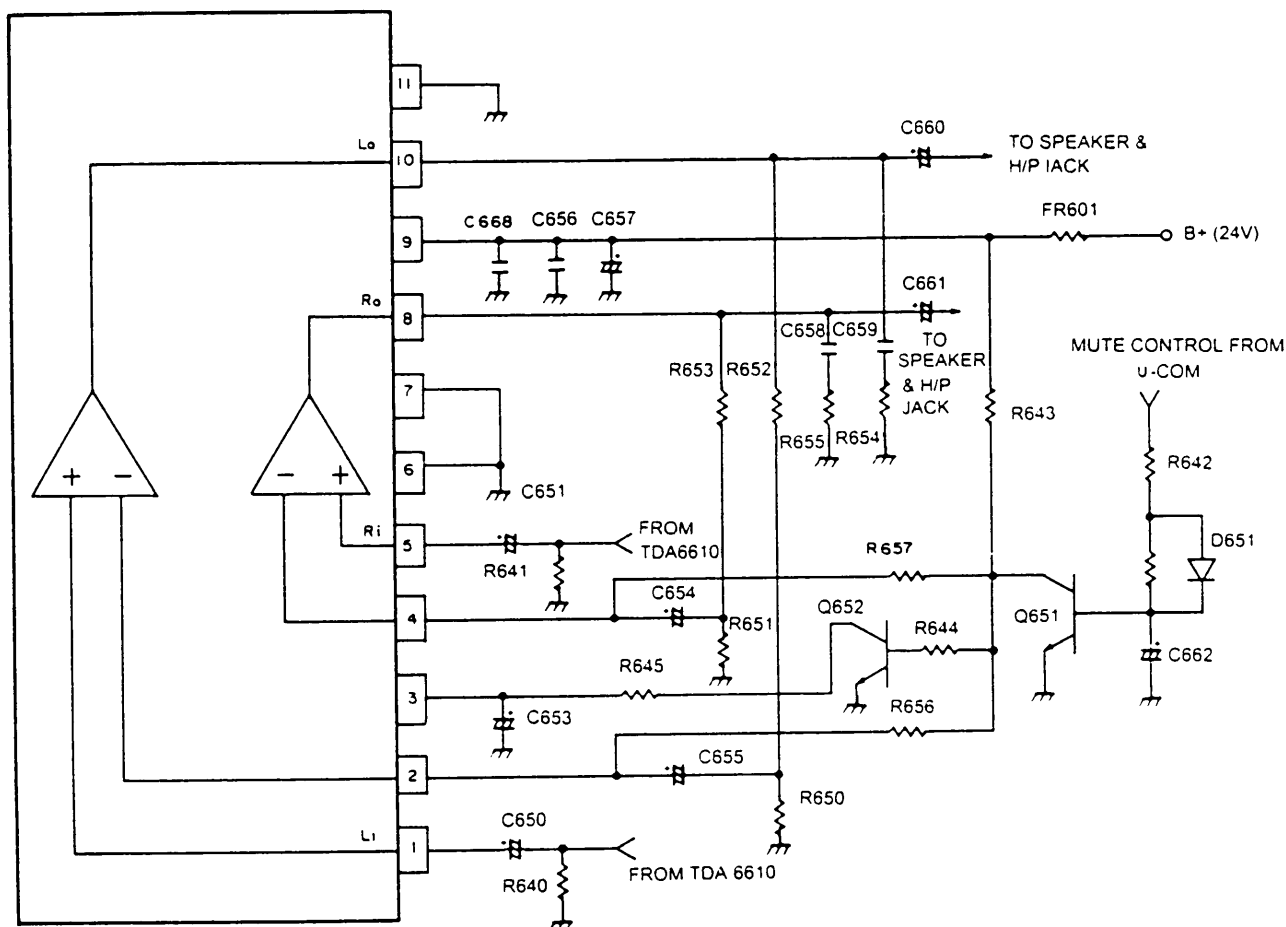

Figure 30. Schematic Diagram of IC603 (TDA 2009A)
- The schematic diagram is same as figure 30.